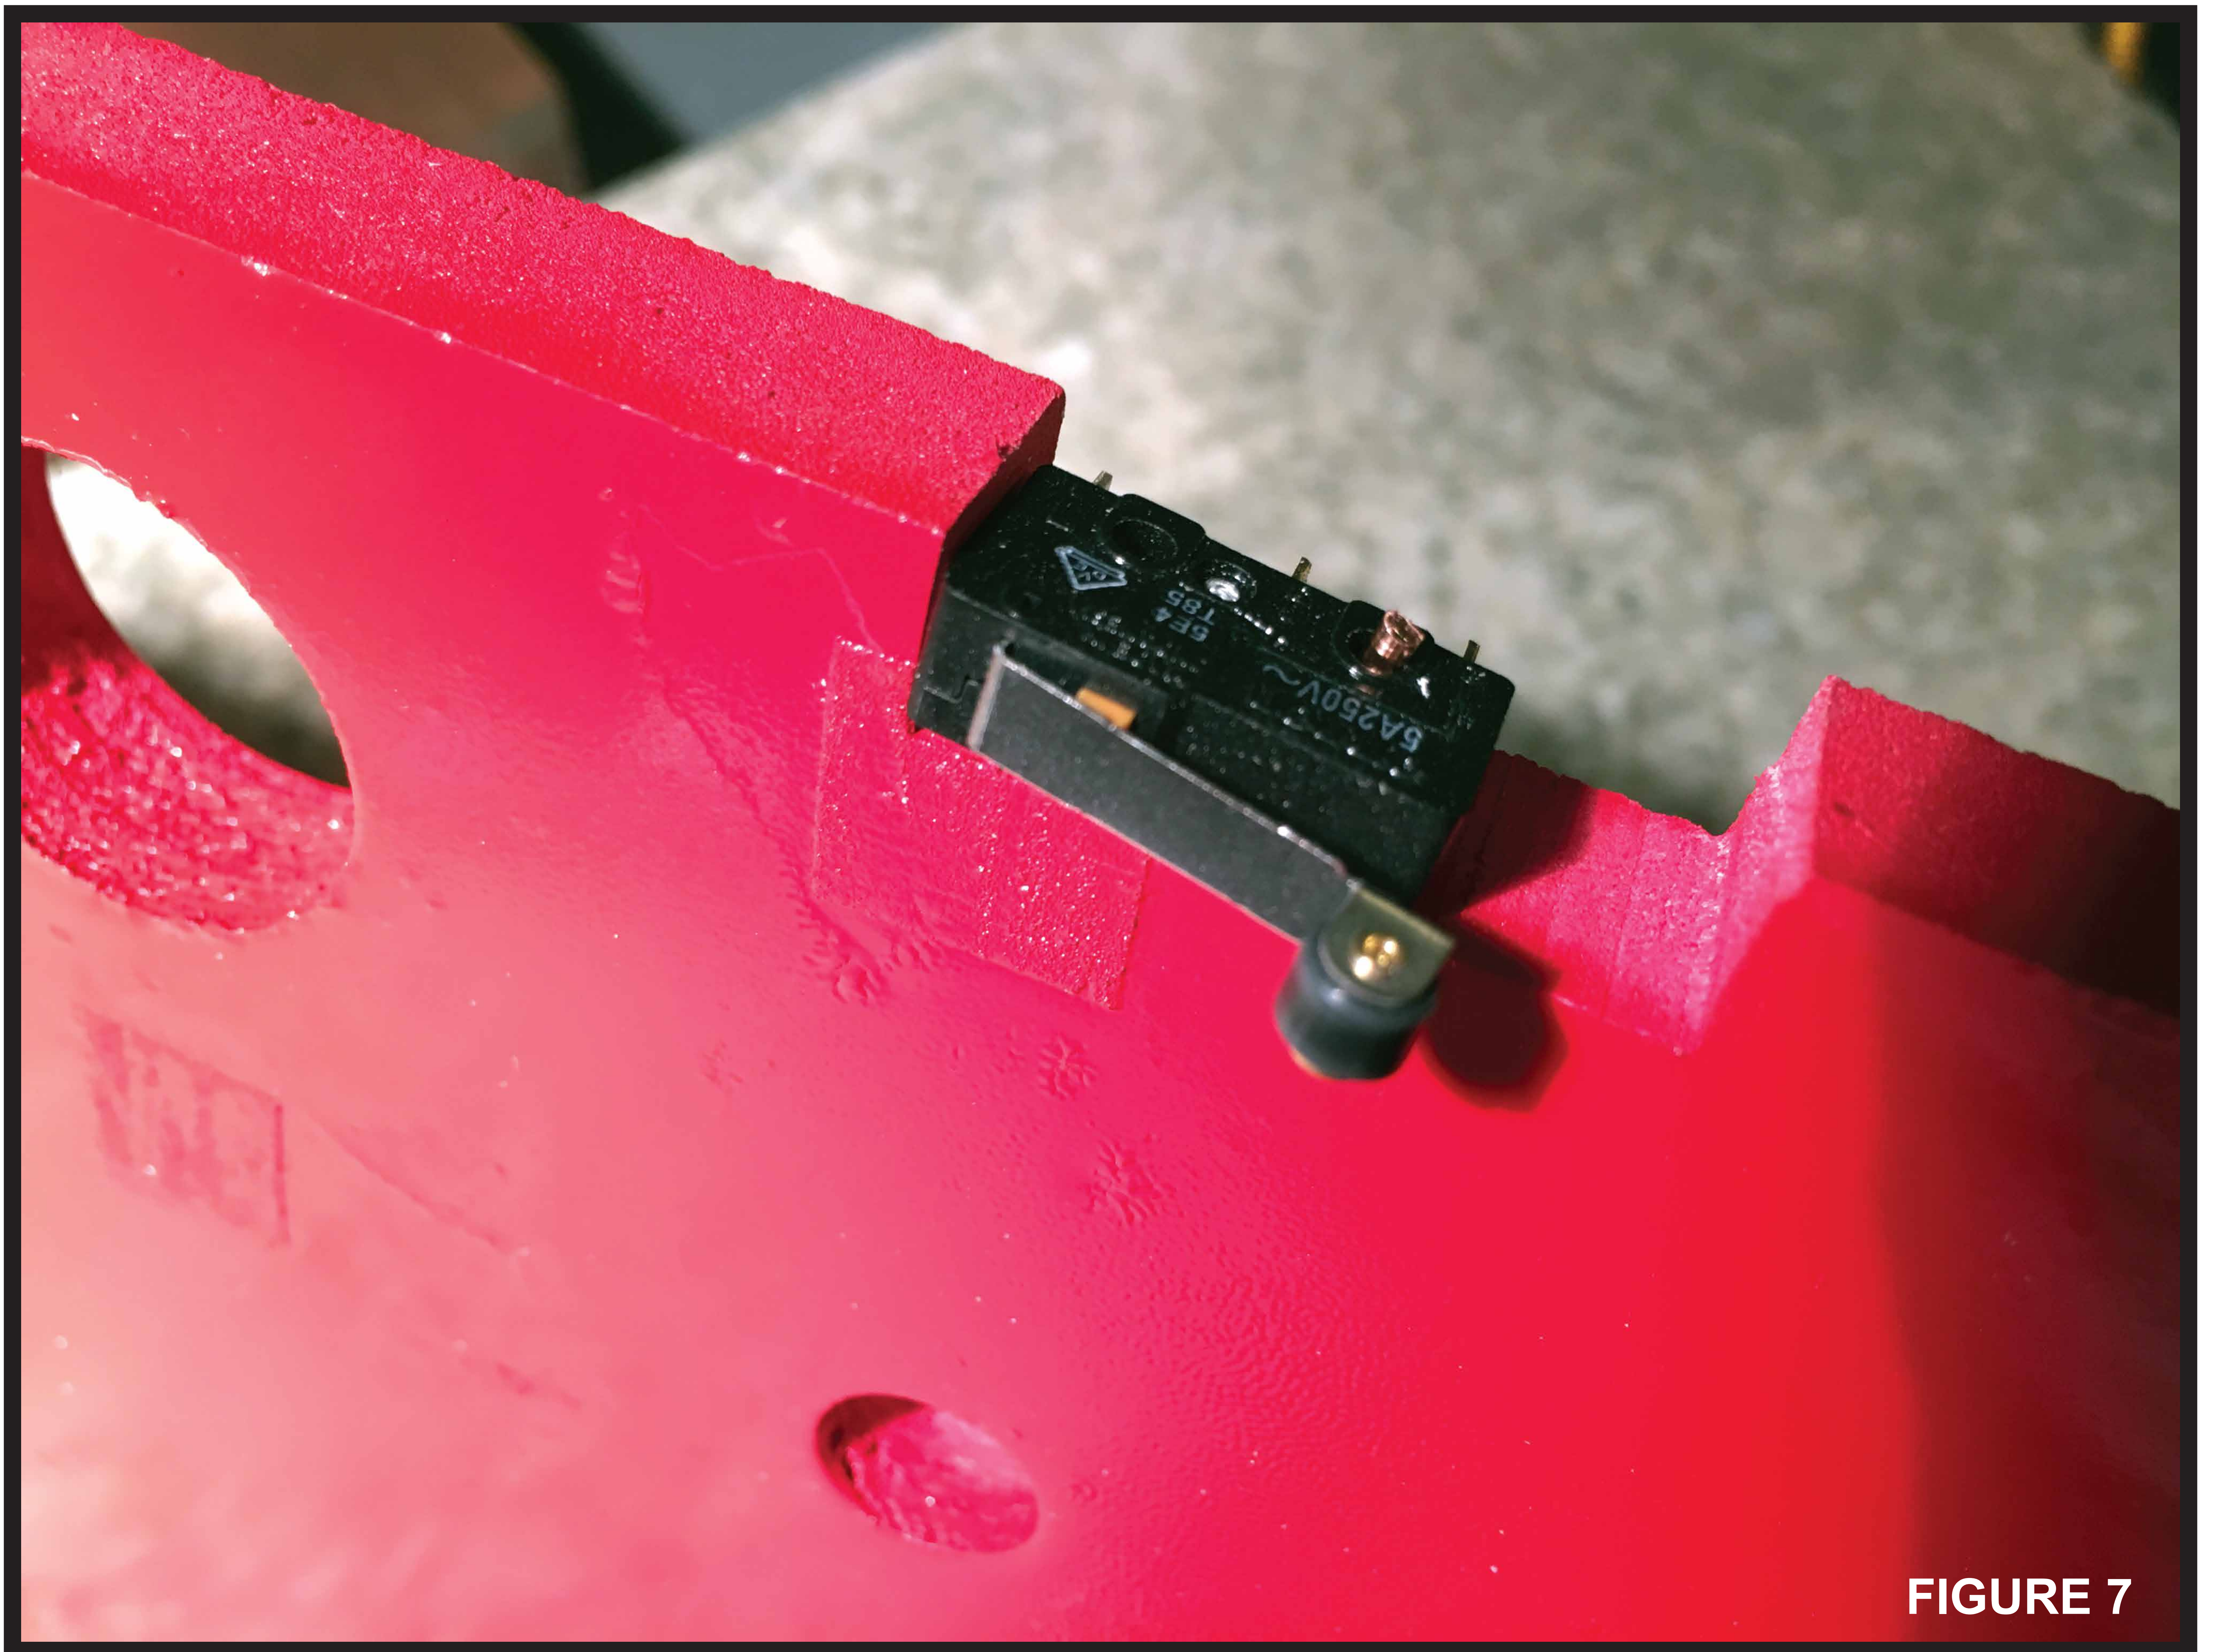

FIGURE 7
- 6. Drill holes to accommodate #12 AWG bare copper wire to a depth of approximately 1/4". These holes will hold pins that position the micro switch of Figure 7 in place with the top of the switch even with the upper surface of the top plate. The micro switch has two holes which can be used as guides for drilling.**
- 9. Place glue along the area of the top plate that intersects the micro switch and then slide the micro switch into place over the registration pins as shown in Figure 7.**